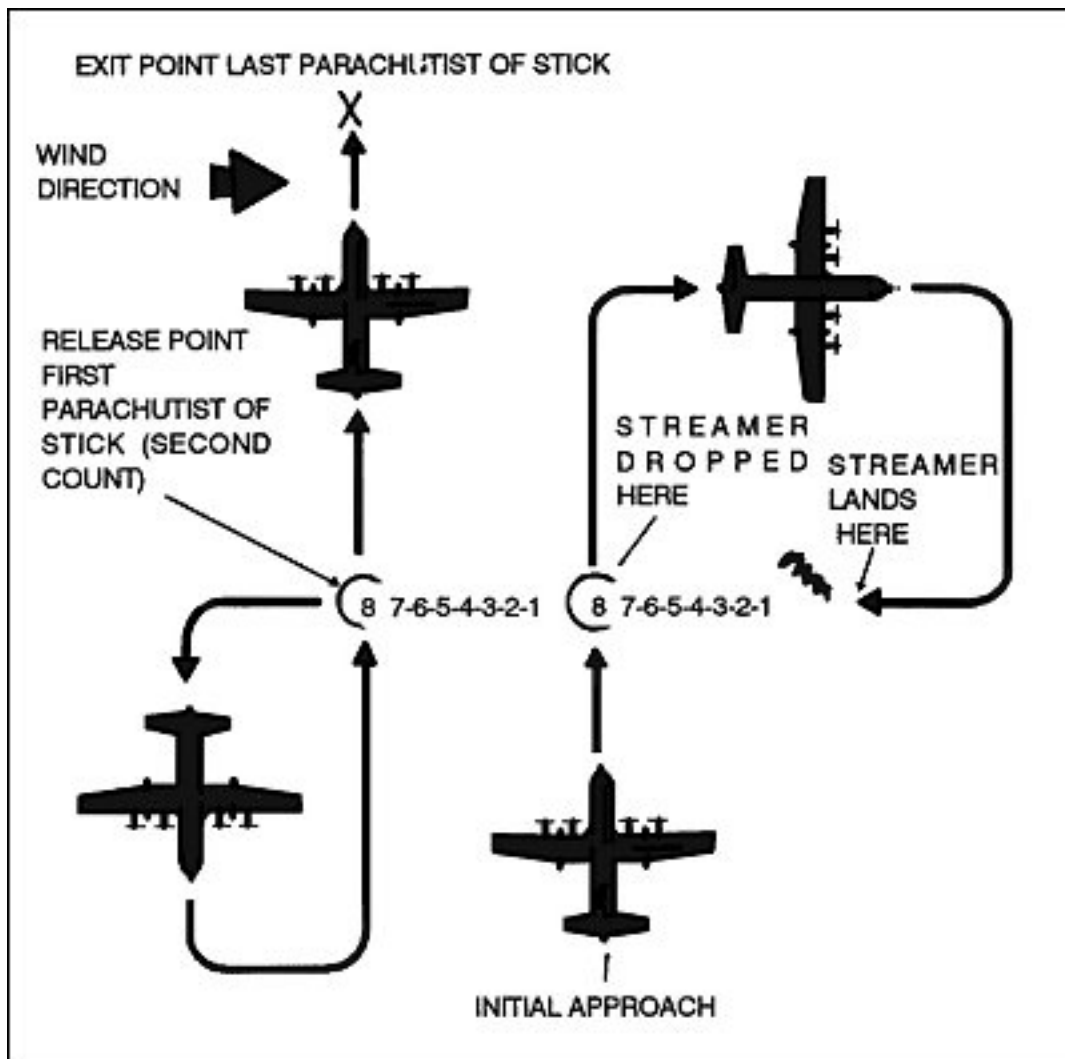

Figure 6-11. Wind streamer vector count.
- d. If the RP falls off the DZ, hiding the markings, or if the GTA operator cannot see the aircraft, change the parachute drop to a jumpmaster-directed release operation using the wind streamer vector count (Figure 6-11).